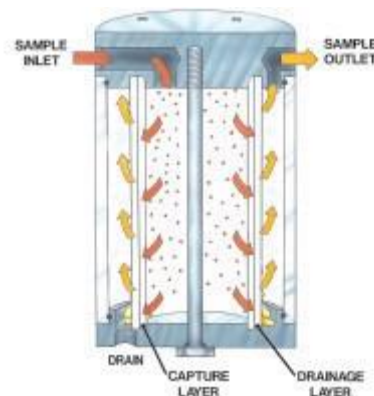

Figure 2
2. **Coalescing and Particulate Filter (See Figure 2):**